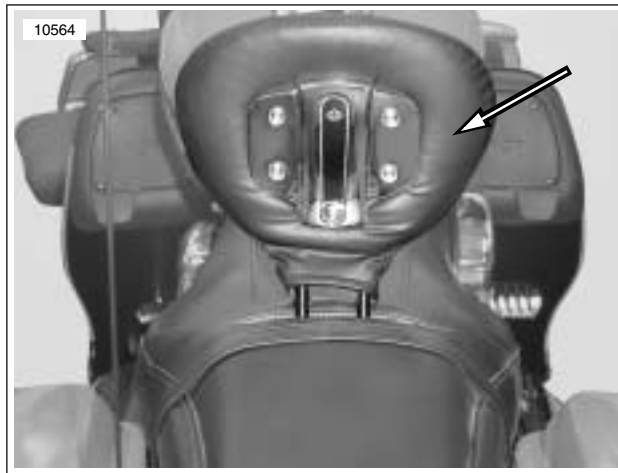

Figure 2-28. Removable Rider Backrest
1. See Figure 2-28. Spread the seat covering at the base of the backrest exposing the two spring loaded support arms.